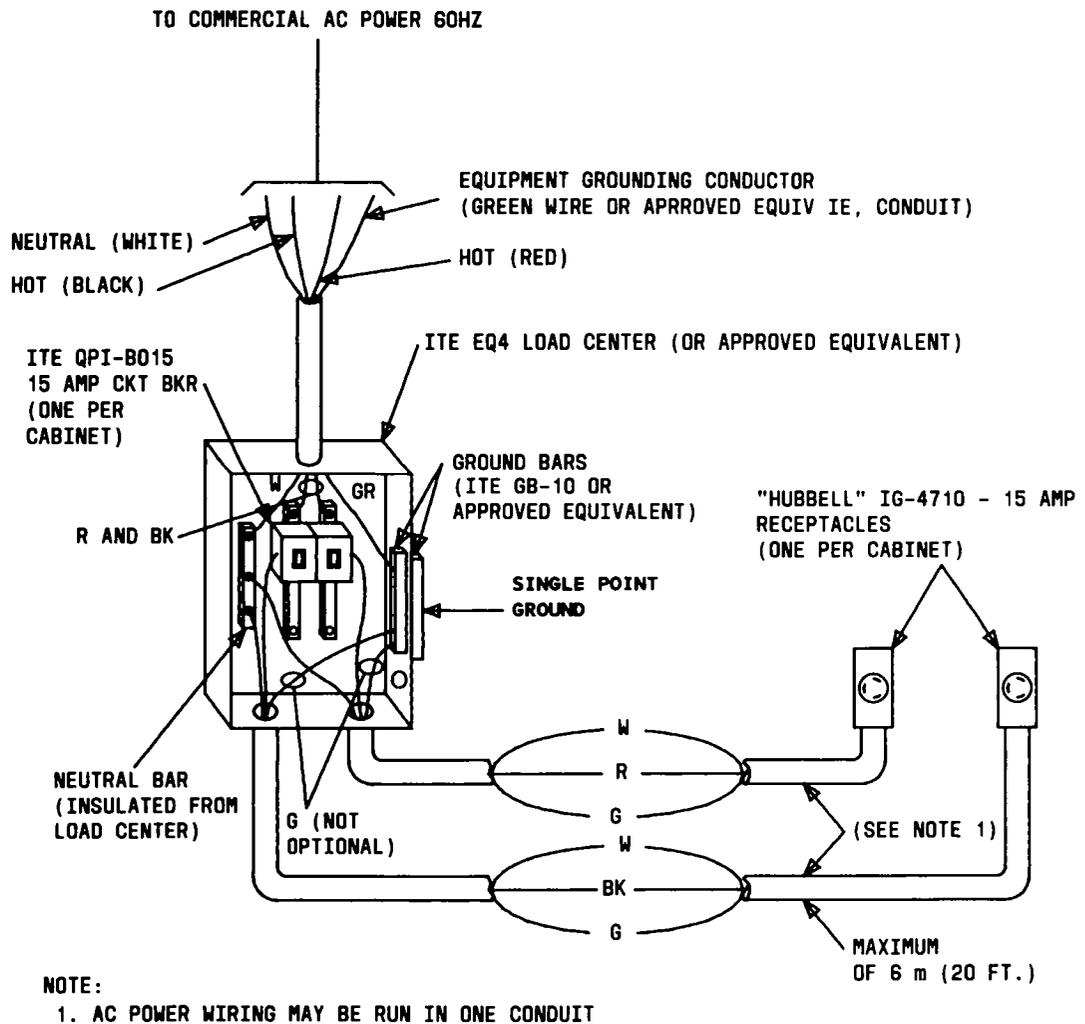

Fig. 53—Load Center and Receptacles for DIMENSION PRELUDE PBX
ground) is always provided for powering and grounding the PBX (refer to Fig. 53).
**6.06** The ac distribution required for a 2-cabinet DIMENSION PRELUDE PBX system is shown in Fig. 53. Installation and wiring of an ap-
**6.07** A load center (panel board) of appropriate current rating (ITE EQ4 typical, or approved equivalent) is equipped with 15-ampere single-pole thermal magnetic circuit breakers (ITE QPI-BO15 typical, or approved equivalent). Each circuit breaker protects one associated wall-mounted receptacle. The number of circuit breakers and receptacles must accommodate all cabinets (see Fig. 53).